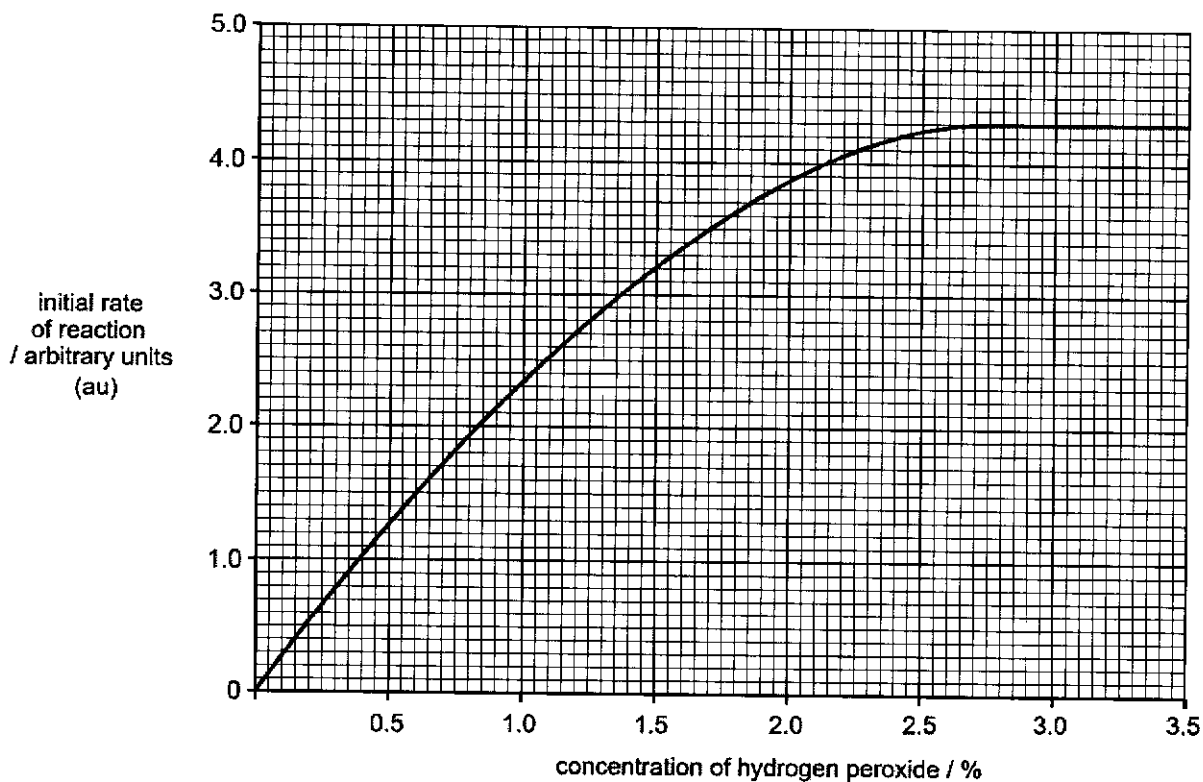

Fig. 2.2
The student measured the initial rate of reaction at different concentrations of hydrogen peroxide. The results are shown in Fig. 2.2.
- (i) Use the graph in Fig. 2.2 to estimate the Michaelis-Menten constant (K_m).